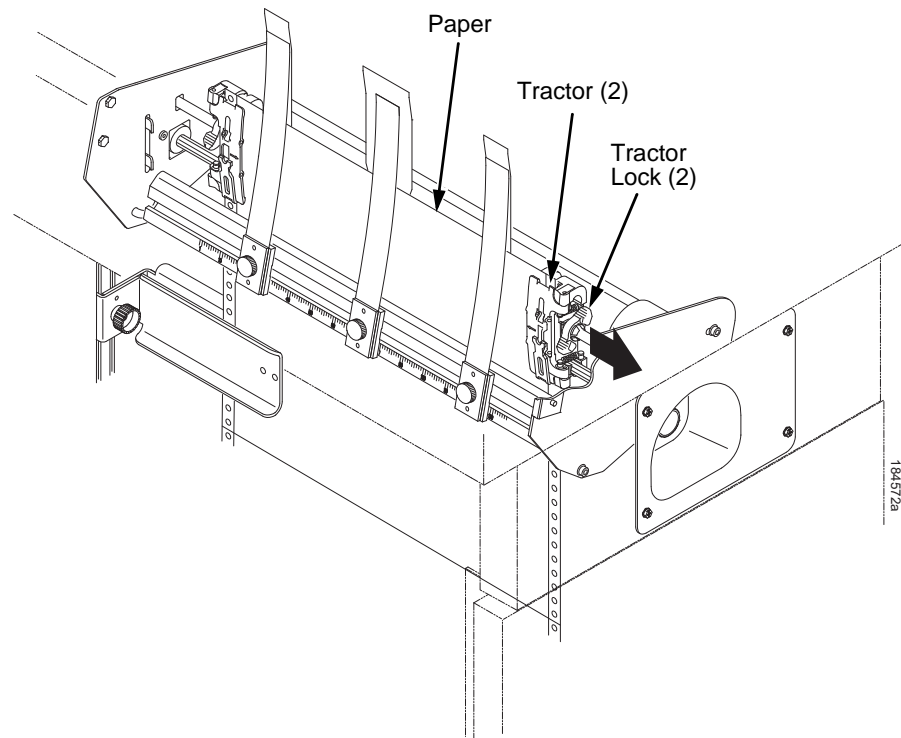

Figure 4. Adjusting the Horizontal Paper Tension
5. Adjust the paper web tightness by sliding the right tractor to remove slack or to adjust for various paper widths. (See Figure 4.)